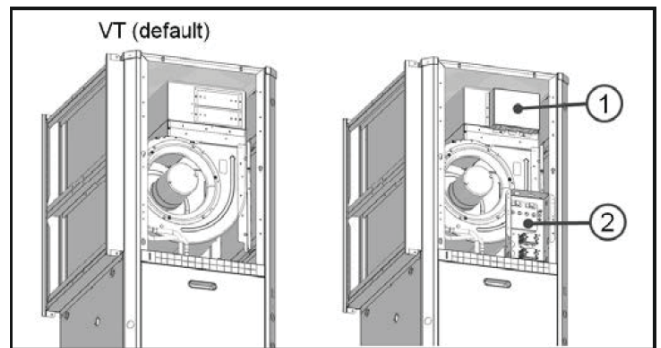
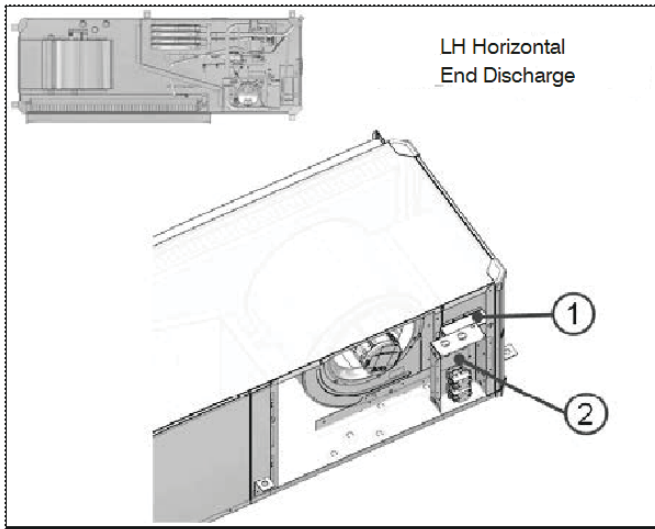

Fig. 1 – Electric Heater Element Cover (1) and Electric Heat Control Box (2) Location - Vertical Configuration A210067
Fig. 4 – Electric Heater Element Cover (1) and Electric Heat Control Box (2) Location - LH Horiz. End Discharge Config.
The Electric Heat field installed kit contains two main electrical enclosures: Electric Heat Control Box and Electric Heat Elements, both are located in the blower compartment. (Fig. 1 through Fig. 4) The control box attaches to the corner post and the heat elements to the blower heater collar in the blower compartment.
1. Install heater control box per Fig. 1 - 4. Orient the heater control box with the contact(s) toward the bottom.